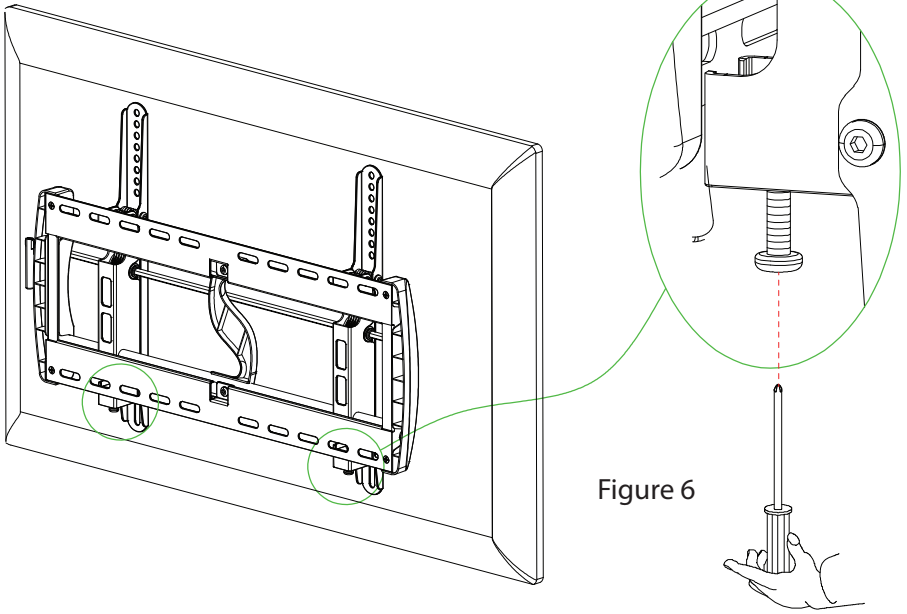

Figure 6
**Step 5:** Tighten the safety screws. (Figure 6)